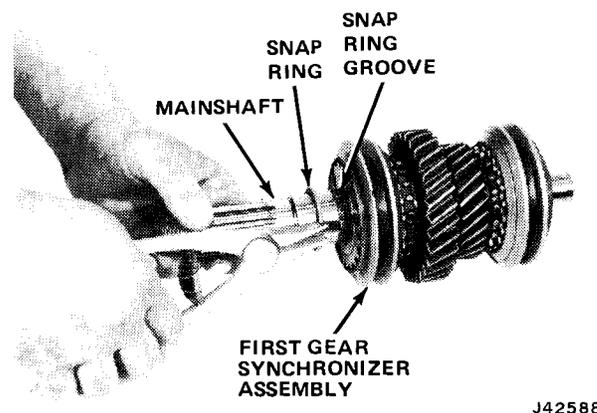

Fig. 6-24 First Gear Synchronizer Hub Snap Ring Removal—Installation
(12) Install First gear clutch hub snap ring (fig. 6-24).